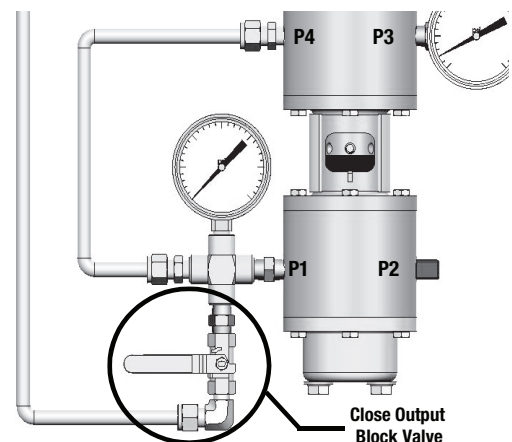

Figure 6 - Output Block Valve
- D. Close output block valve (figure 6). Open integral (metering) valve, and derivative orifice to 6 (wide open).